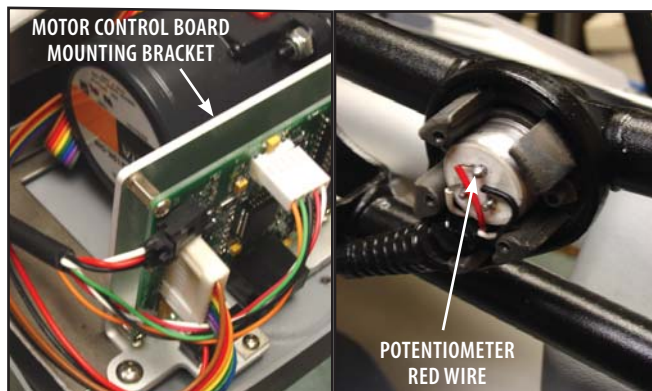

FIGURE 7.6
6. Connect the negative (black) lead from the Digital Multimeter to the Motor Control Board Mounting Bracket and the Positive (red) Lead to the Red Wire on the Potentiometer. **Refer to Figure 7.6.**